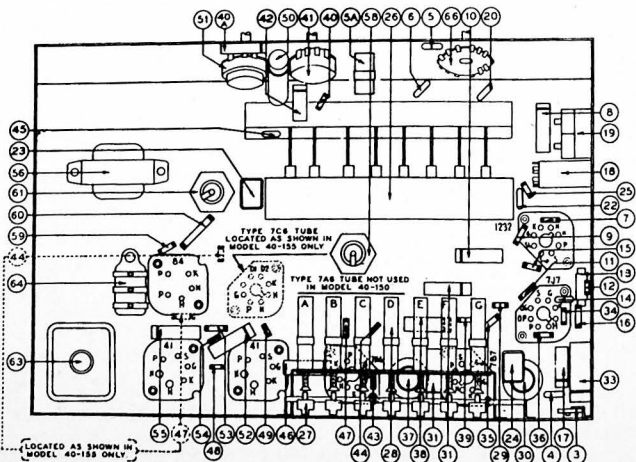

Fig. 2. Part locations, underside of chassis.
The physical location of condenser (4) as shown in Fig. 2 of the service bulletin has been changed to prevent oscillation at 540 K. C. The condenser is now wired to a three lug wiring panel between the range switch and volume control. The antenna lead is connected to one lug of this panel. This change is made on all sets marked Run No. 6.